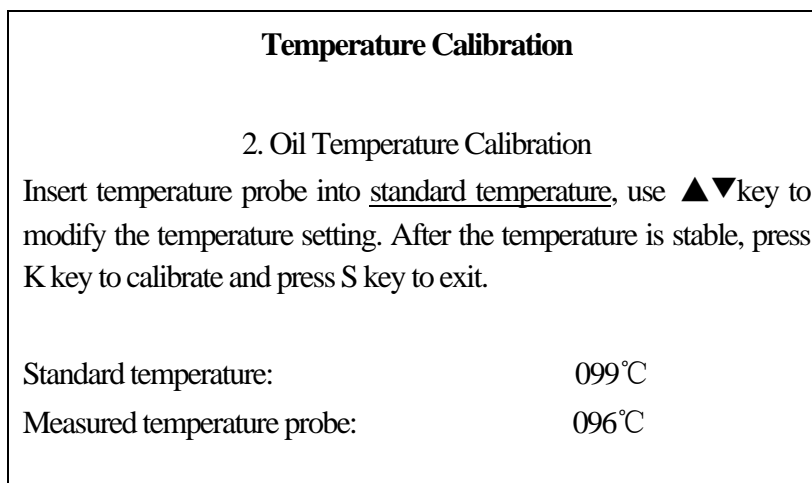

Figure 8. Interface 2 of "Temperature Calibration"
1-Cooling Fan 2-Zero Gas Filter 3-Gas Outlet of O₂ Sensor 4-Gas Outlet of NO_x Sensor 5-Revolving Speed Signal Socket 6-Oil Temperature Signal Socket 7- Power Socket and Switch Figure 8-RS232 Output Signal Socket 9-Solenoid Valve 10-Main Gas Outlet 11-Water-Separating Filter 12-Standard Gas Inlet 13-Condenser and Sampling Gas Inlet.
- e) After calibrating the indoor temperature, enter the following interface 2 of "Temperature Calibration" (Fig. 8),